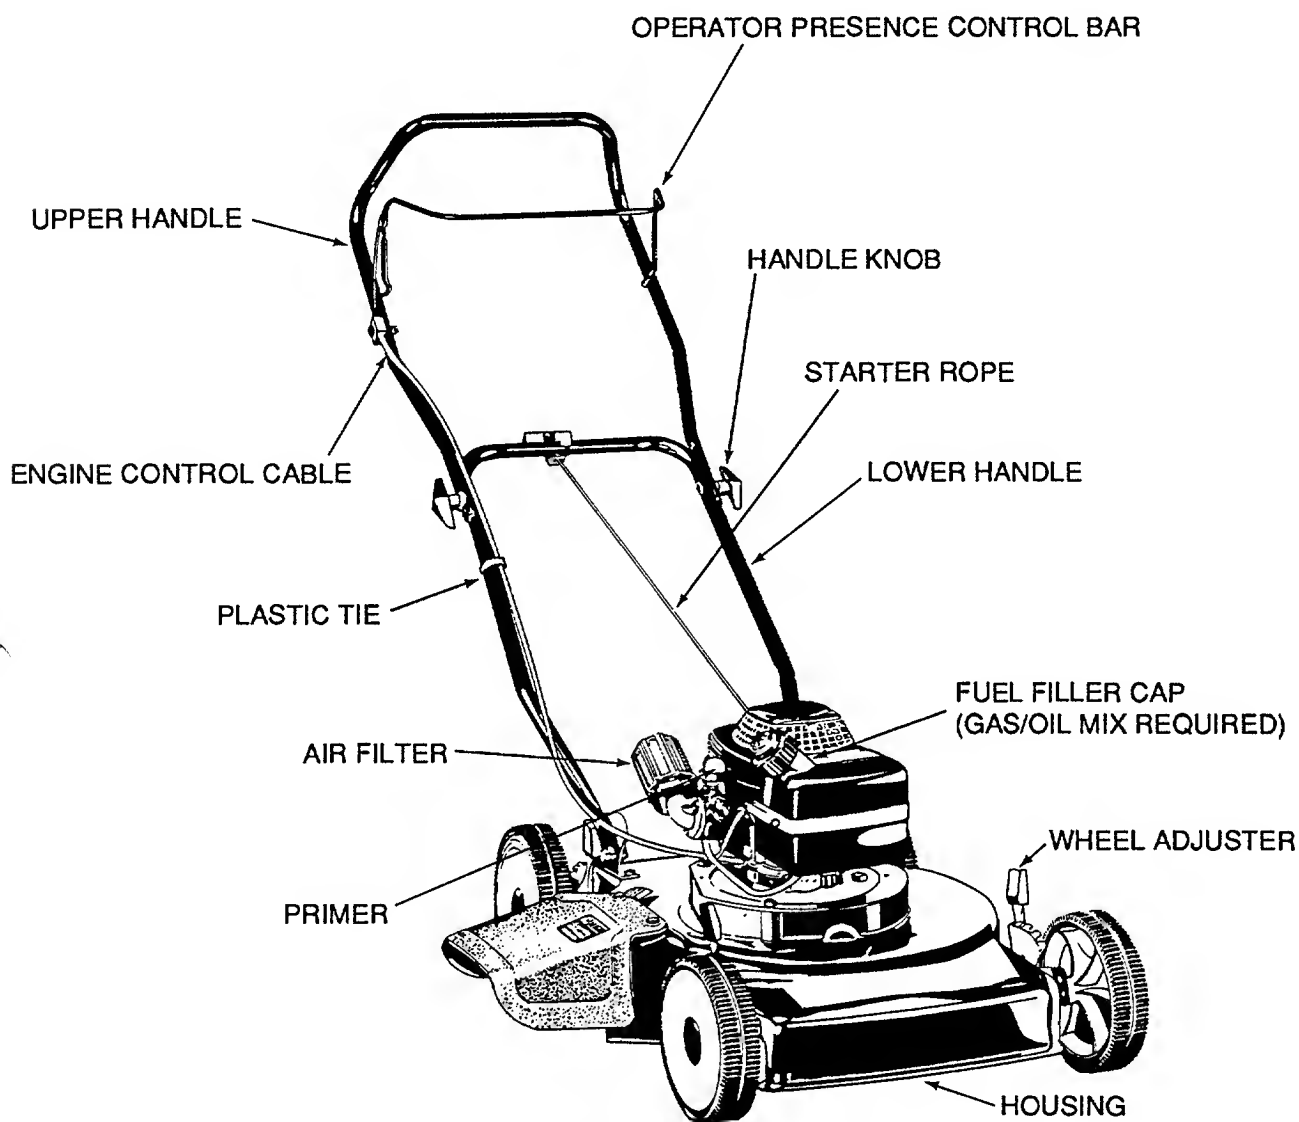

Fig. 5
- Secure engine cable to lower handle with plastic tie (See Fig. 5).
- **PRIME ENGINE** (See Fig. 5 on page 7) -